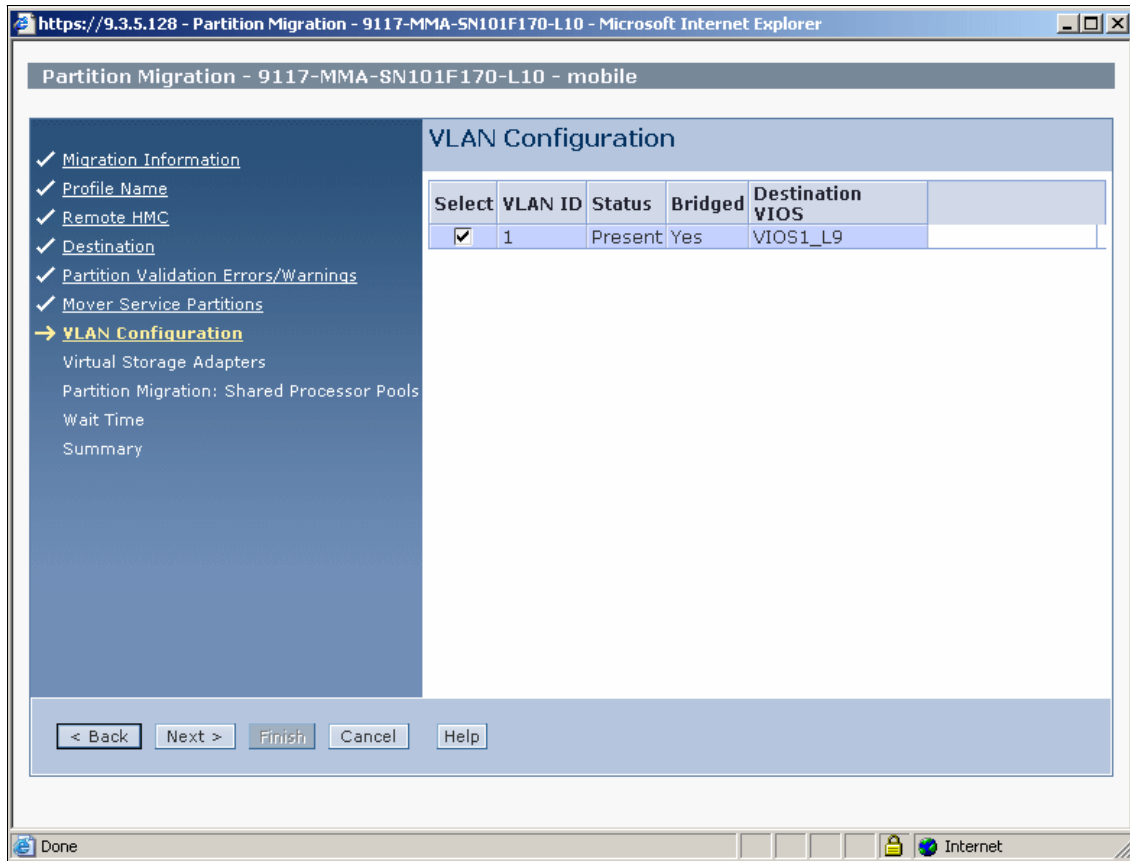

Figure 14-15 Selecting the VLAN configuration
10. Select the VLAN configuration as shown in Figure 14-15.